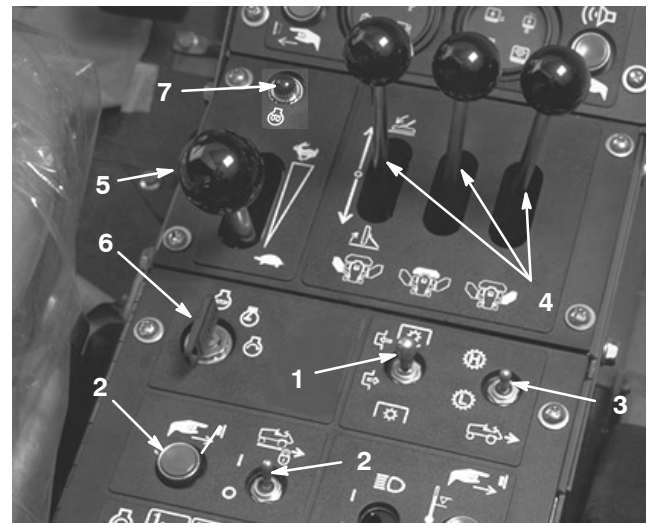

Figure 25
3. Rotate ignition key switch to START position (Fig. 25). Release key immediately when engine starts and allow it to return to RUN position.